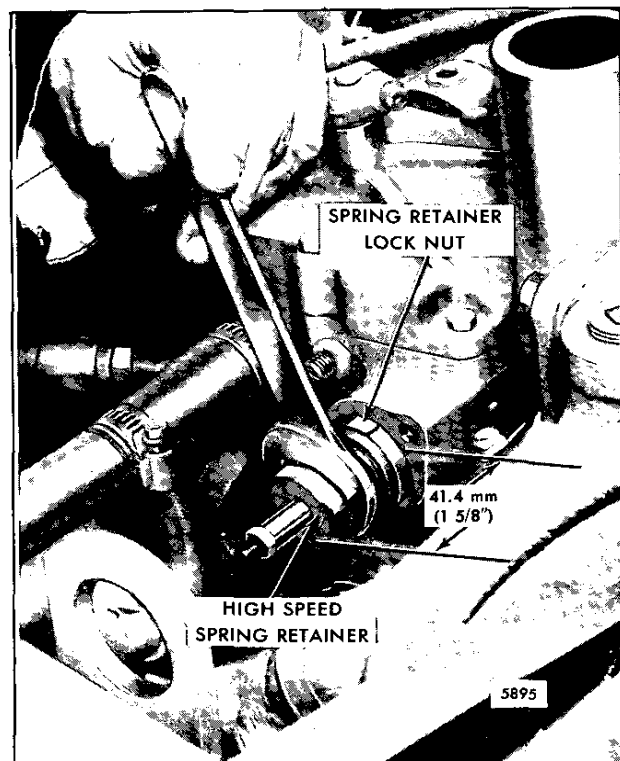

Fig. 2 - Adjusting Maximum No-Load Engine Speed
4. Loosen the high-speed spring locknut and set the high-speed adjusting nut to 41.4 mm (1-5/8"). Refer to Fig. 2.
1. Set the high-speed adjusting nut at 41.4 mm (1 5/8") - (Fig. 2).
4. If the engine RPM's exceed the specified no-load speed before the speed control lever reaches the end of its travel, back off the high-speed spring retainer (Fig. 2) as required. The recommended no-load speed setting is 3200 RPM for 3000 RPM and 3000 RPM for 2800 RPM rated engines.
5. If the engine speed is not within the recommended speed range (see Chart), turn the high-speed spring retainer (Fig. 2), until the engine is operating at the recommended no-load speed.